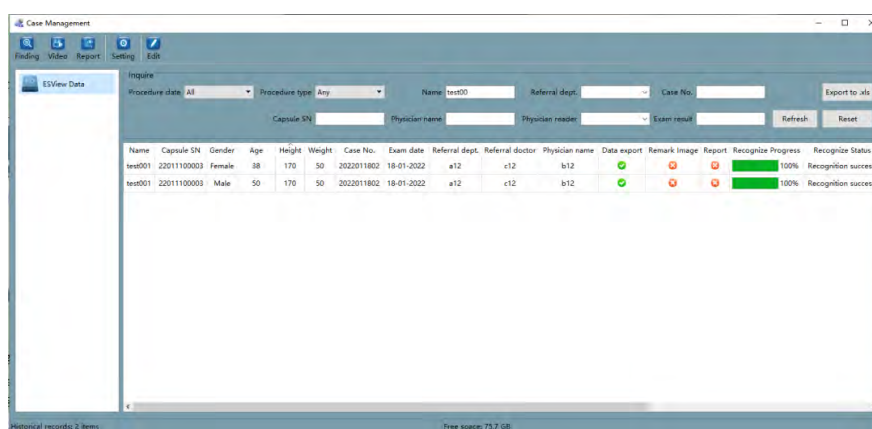

Figure 4-60: Case Management Interface
1. In the main software interface, select “Tool” ? “Case management” to access the case management interface (Figure 4-60). The software will automatically add the data export path to the case data storage path.
4. In the case management interface (shown in Figure 4-60), select a case and click  to open the case video and load the finding file. Click  to open the case video, click  to open the recently saved report, click  to access the patient information editing interface (Figure 4-63), where you can change patient data. Alternatively, in the main software interface, open a video file and select "File" → "Edit patient info" to access the patient information editing interface.